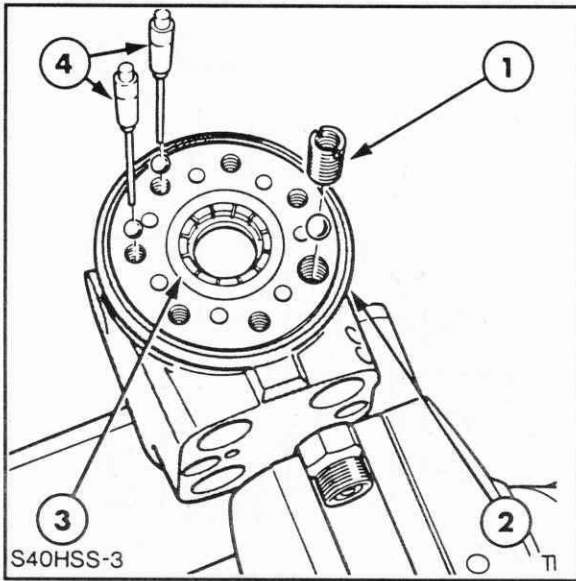

Figure 7-39A
11. Install the check valve ball into the large bolt hole and install the threaded bushing. Install the two suction valve assemblies, Figure 7-39A.